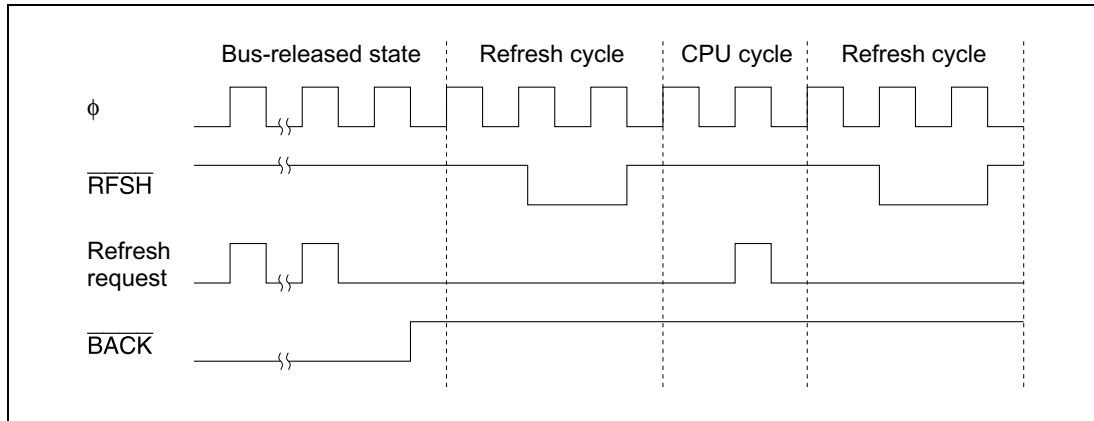

Figure 7.24 Refresh Cycles when Bus is Released
- If refresh requests occur while the bus is released, the first request is held and one refresh cycle is executed after the bus-released state ends. Figure 7.24 shows the bus cycles in this case.